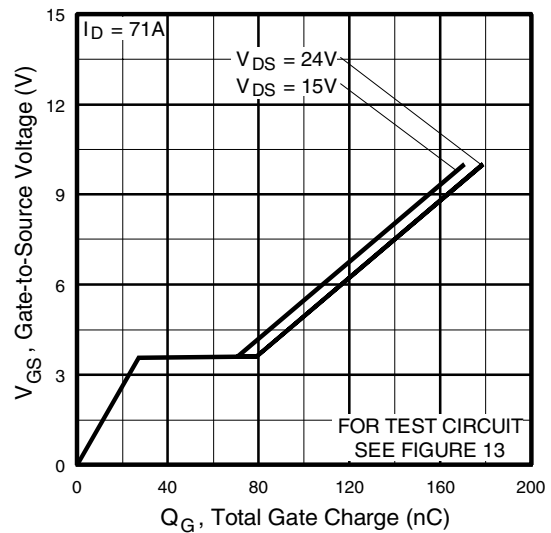

Fig 6. Typical Gate Charge Vs. Gate-to-Source Voltage
| Q _{gd} | Gate-to-Drain ("Miller") Charge | — | — | 78 | | V _{GS} = 4.5V, See Fig. 6 and 13 ^{④⑤} |